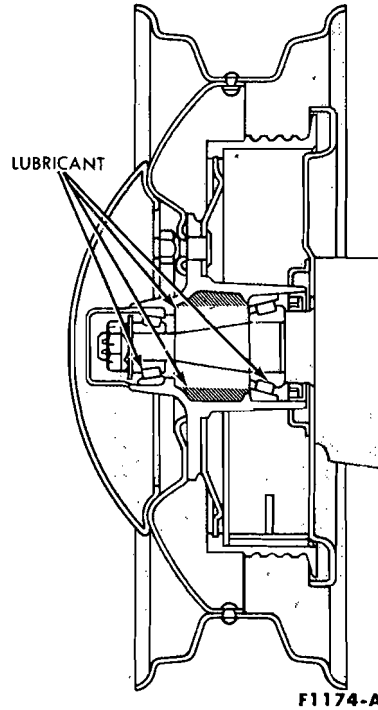

FIG. 8—Front Wheel Hub Lubrication—Typical
10. Pack the inside of the hub with specified wheel bearing grease. Add lubricant to the hub only until the grease is flush with the inside diameter of both bearing cups (Fig. 8).
5. Pack the inside of the hub with specified wheel bearing grease. Add lubricant to the hub only until the grease is flush with the inside diameter of both bearing cups (Fig. 8).